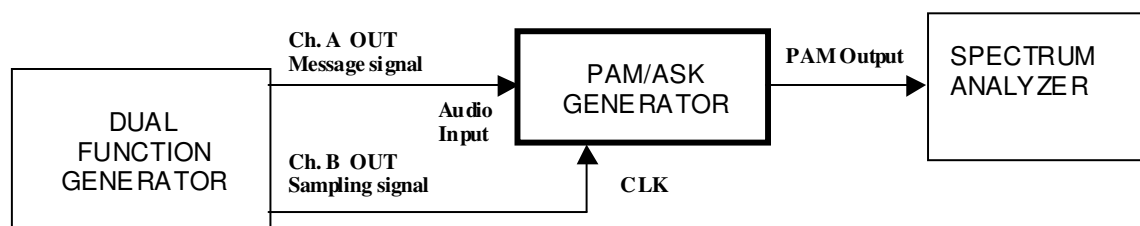

Figure 2 Frequency Domain observation of PAM signal
4. Set up the system in figure 2. Observe PAM spectrums for message signals of 2kHz, 4kHz and 6kHz.